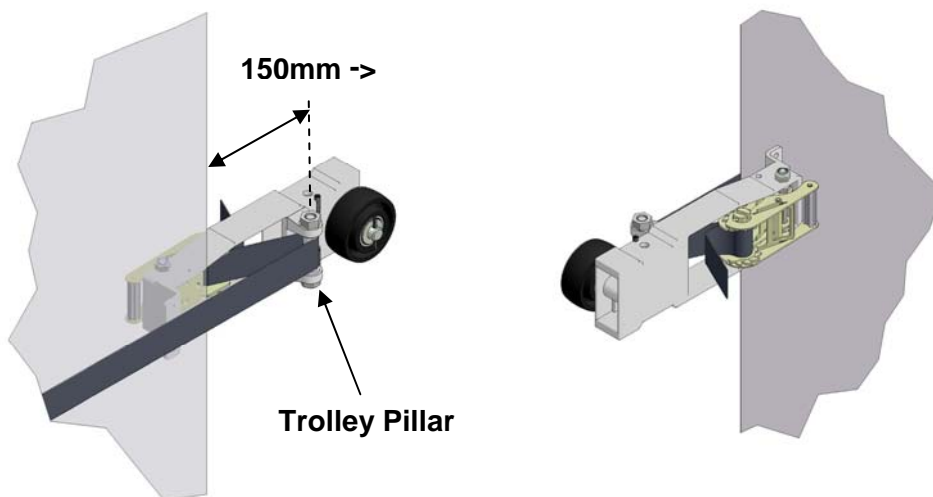

Figure 15
5.2 Lay the panel across the opening in preparation to fasten the webbing straps to each Trolley. Working up from the bottom Trolley first, pass the webbing strap around the nylon bushes on the Trolley pillar and back towards ratchet tensioner. When the panel edge is approximately 150mm to 250mm from Trolley pillar feed webbing strap through slot in ratchet barrel and operate the handle (Figure 15). At this point do not let the Panel touch the pillar. With the exception of the upper strap (which is fixed to the Top Plates) repeat for all webbing straps, ensuring the Panel is central and applying equal tensioning throughout.